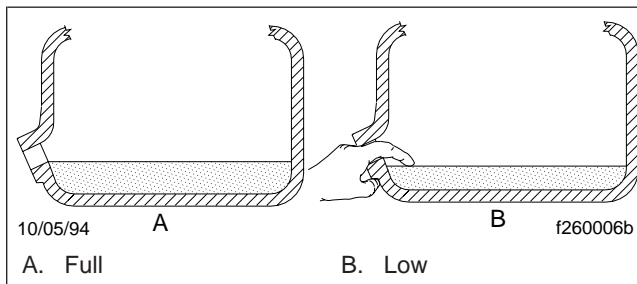

Fig. 1, Transmission Fluid Level Checking
- 2.2 Using your finger or a bent pipe cleaner, see if the fluid is level with the lower edge of the fill opening. See Fig. 1.